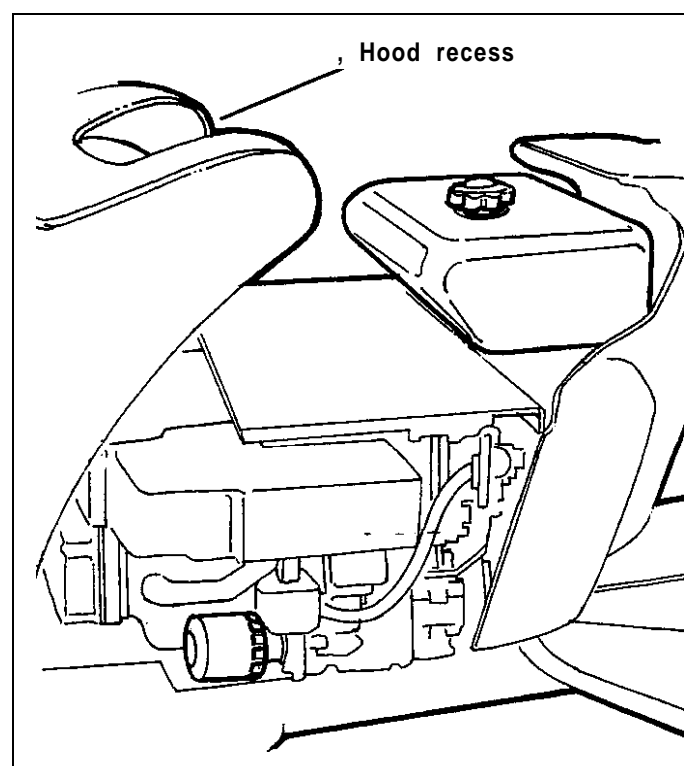

Figure 10. Gas Tank Located Under Hood
1. To raise the hood, grasp the hood recess (figure 10) on top, then pivot the hood up and forward.